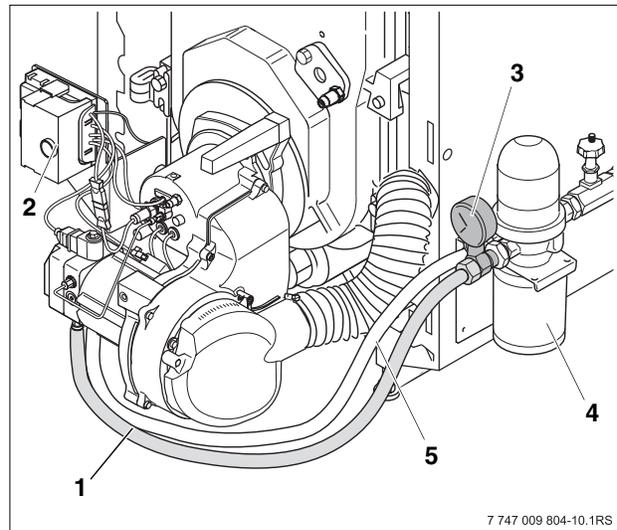

Fig. 10 Oil filter, vacuum meter and transparent hose
- Remove automated burner controller (Fig. 10, **Item 2**) from its base.
- Check that the oil in the Tigerloop reservoir (Fig. 10, **Item 4**) is free from bubbles.
- Close oil valve (Fig. 10, **Item 5**, page 16) and remove transparent hose (Fig. 10, **Item 4**, page 16) and vacuum meter (Fig. 10, **Item 3**, page 16).
- Screw oil suction line (Fig. 10, **Item 1**, page 16) to the filter connection of the Tigerloop (Fig. 10, **Item 5**, page 16).
- Open oil valve at oil filter (Fig. 10, **Item 5**, page 16).